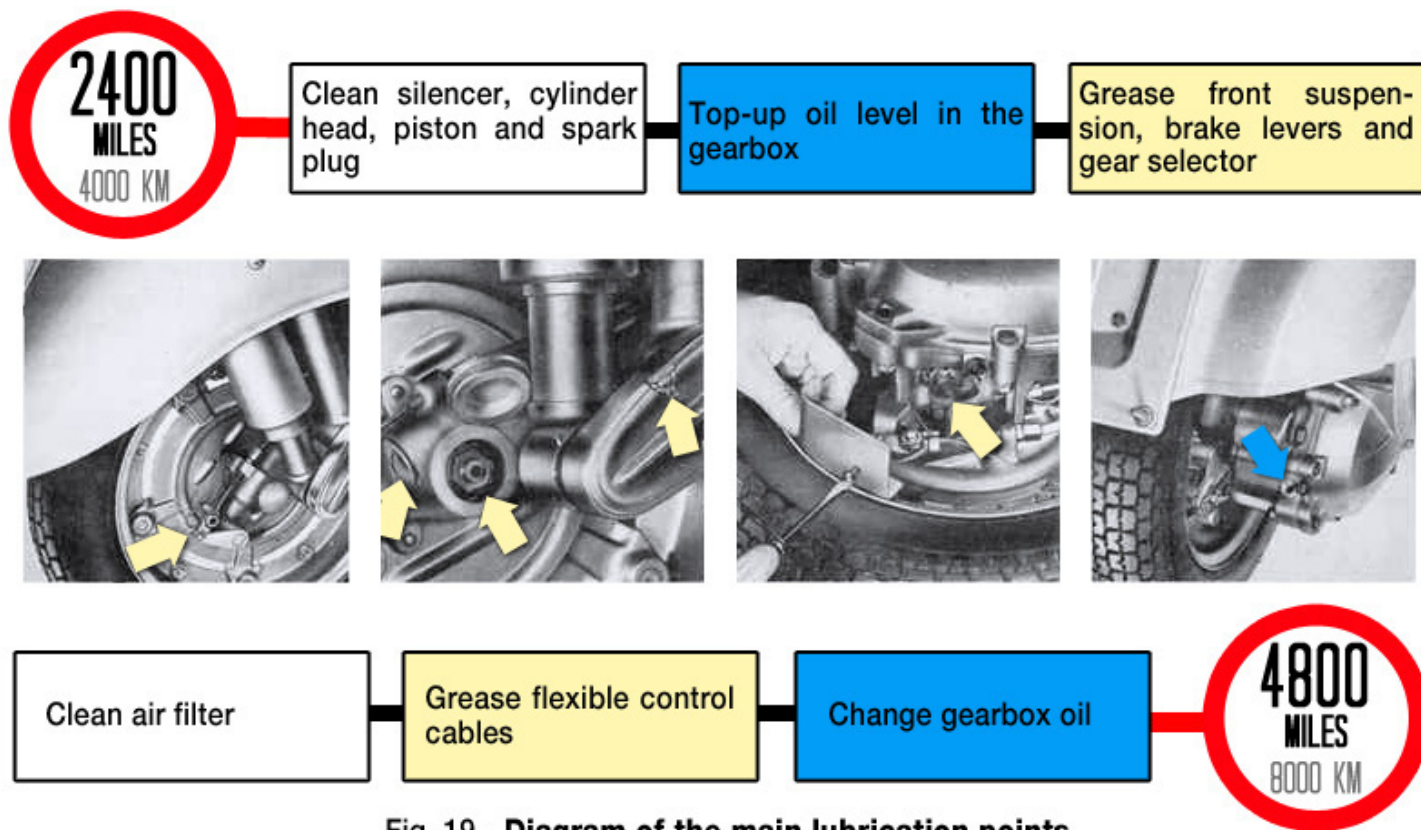

Fig. 19 - Diagram of the main lubrication points
6) - Clean and grease the nipple on the front suspension (second detail from the left, fig. 19); remove the rubber stopper on the front suspension and fill the housing behind it with grease.